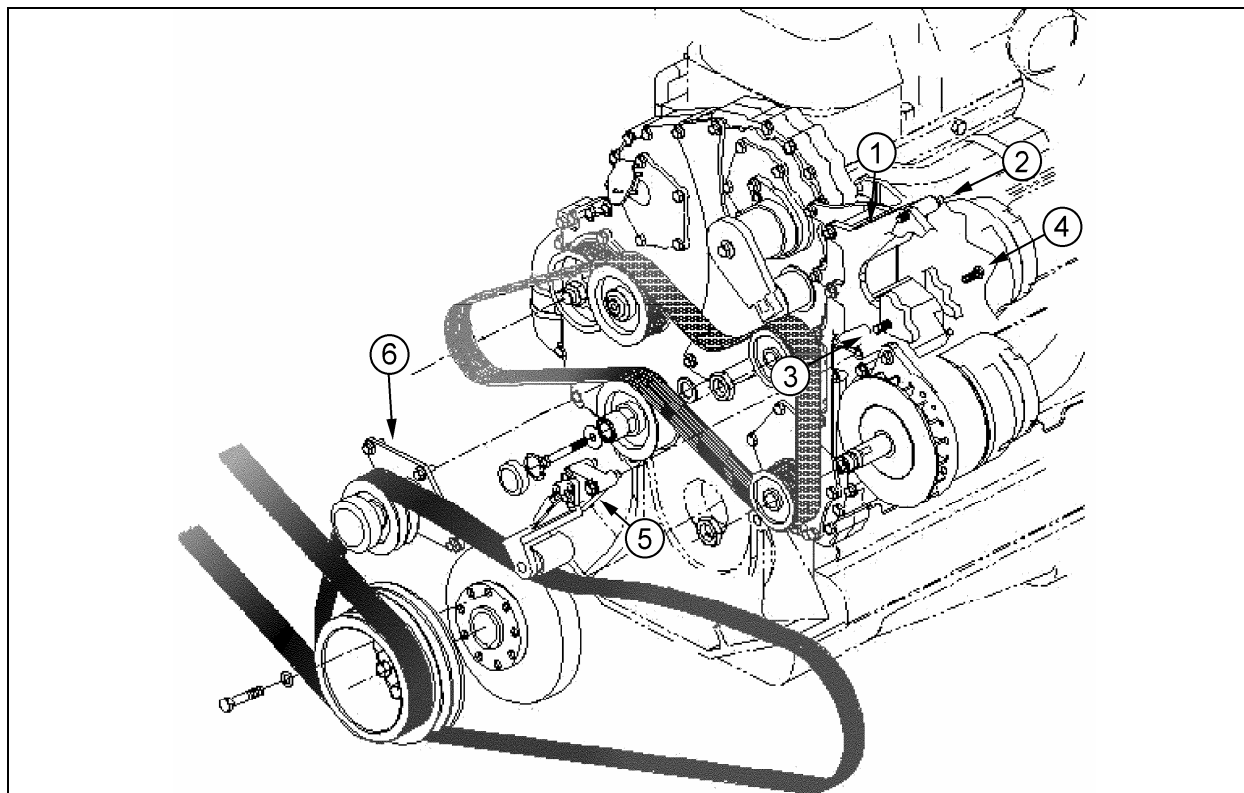
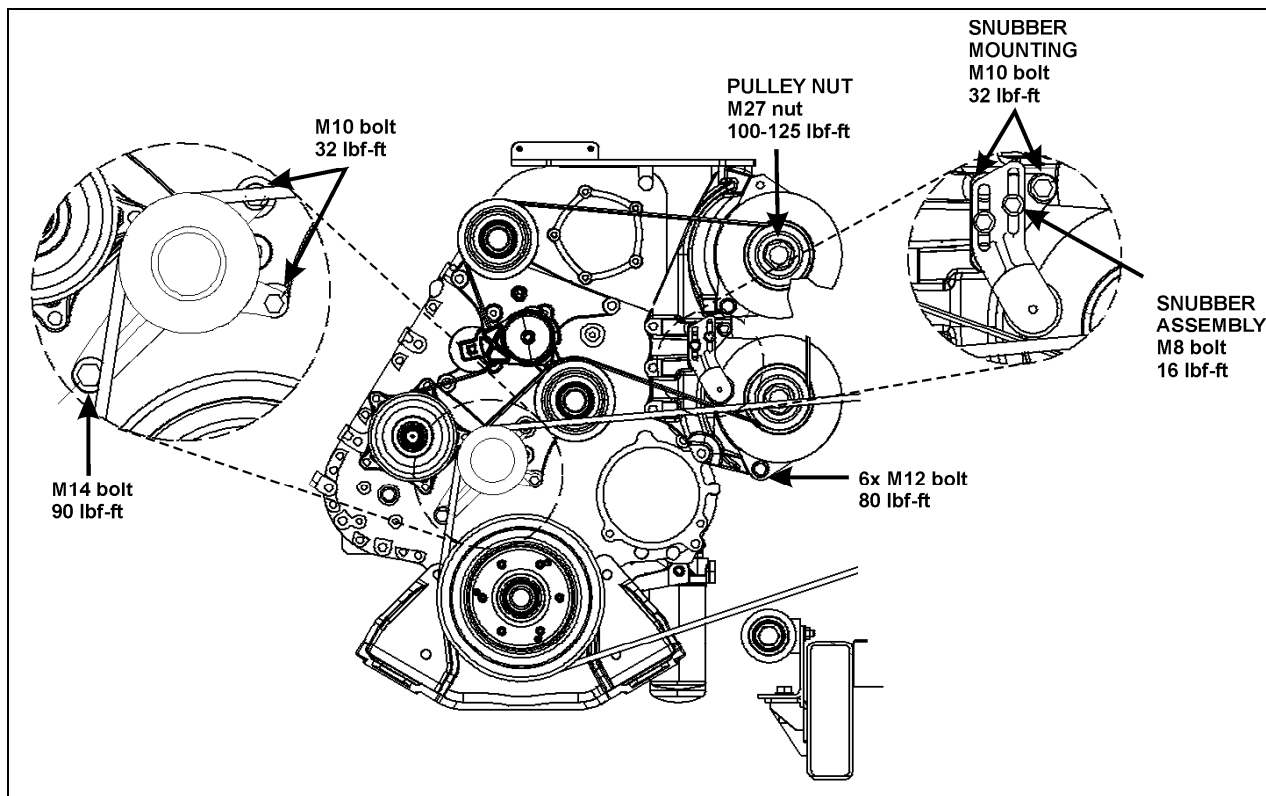

FIGURE 19: TWIN BOSCH ALTERNATORS INSTALLATION
FIGURE 20: ALTERNATORS AND ACCESSORIES MOUNTING TORQUES
- Replace the module (for IO-B modules, disconnect the green connector first, then the grey one and finish with the black connector. To disconnect the black connector, slide downwards the red latch. Remove the lower screw that holds the cable attachment rod onto the floor portion of the panel and flip the rod up, this will relieve the IO-B module, see figure 19).
If the alternators needed to be removed, reinstall as follows. Refer to figure 19 for installation and to figure 20 for tightening specifications:
1. Install alternator mounting bracket (1, figure 19) to the gear case. Use the four flanged phosphor alloy bolts on the pulley end of the bracket and the flanged nuts at the transmission end of the bracket;
2. Bolt the alternators to the bracket using the three inch bolt at the top of the upper alternator (2, fig 19) and flanged bolts at the other mounting bosses (3 and 4, figure 19). Tighten the bolts in the sliding sleeves (4, figure 19) last as they will adjust to prevent breaking the alternator mounting bosses upon final tightening. Repeat for the second alternator;
4. Install the snubber bracket (5, fig. 19) using three flanged bolts. Do not tighten the adjustment bolts on the snubber until after final tightening;
5. Install the compressor belt idler pulley (6, fig. 19) as shown. A stud inserts into one of the mounting holes of the pulley assembly. Fasten this one using a nut and bolts for the other two.